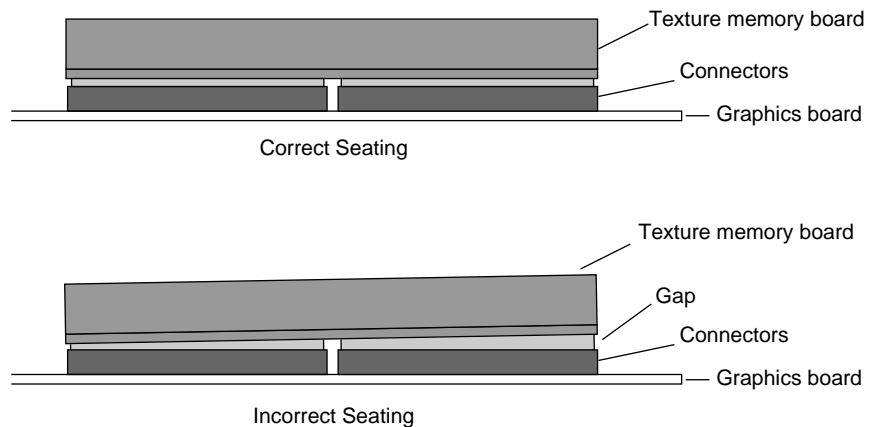

Figure 5-39 Correctly Seating the Texture Memory Option Board
- Check visually to see that the connectors are fully seated along their full length. See Figure 5-39.